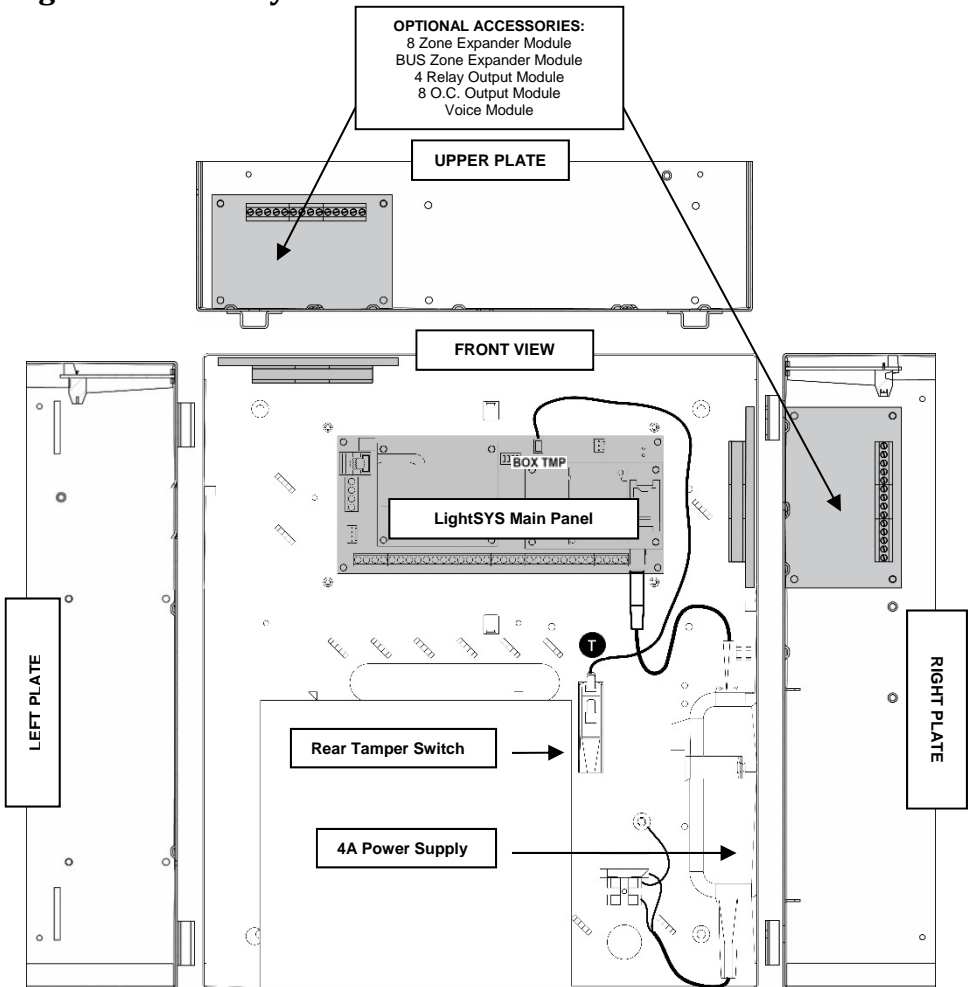

Figure 3
1. Install the LightSYS PCB as displayed above (figure 3).